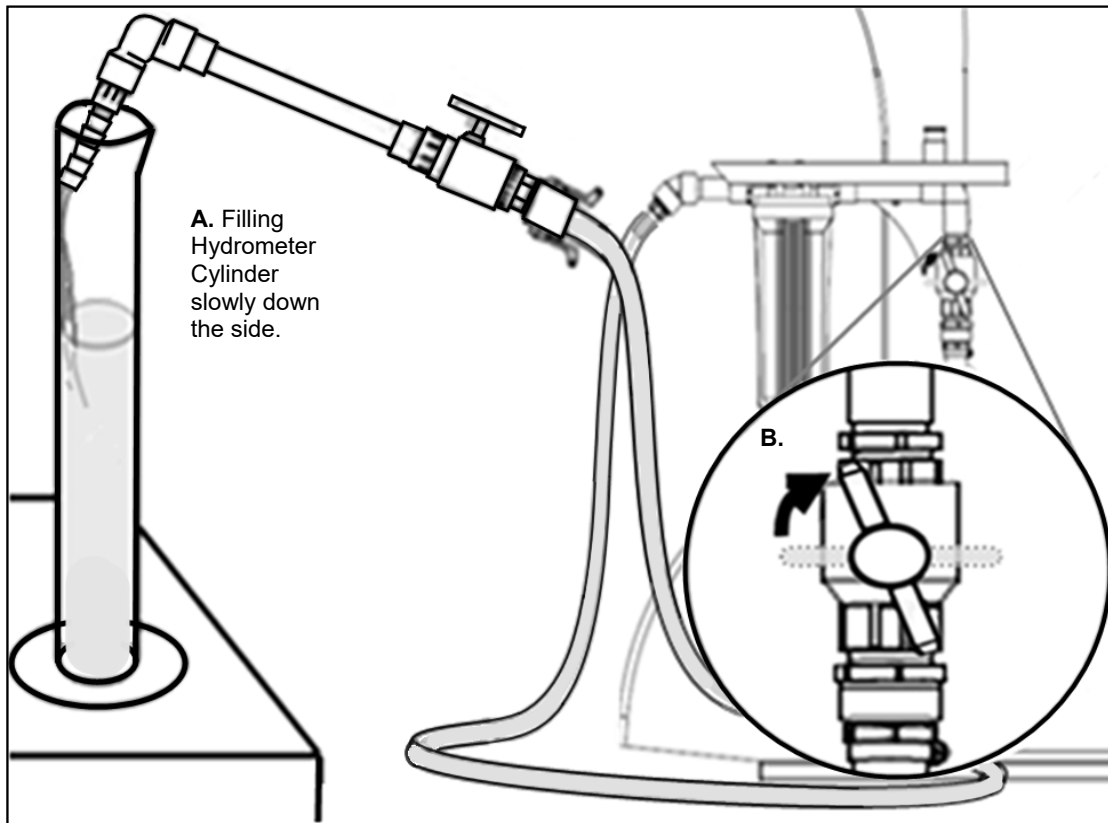

Figure 9: Item A, Filling Hydrometer and Item B, Slightly OPEN Main Transfer Ball Valve
4. Slightly OPEN the Main Transfer Ball Valve next to the Filter Housing (Figure 9, item B).
- Slowly OPEN the Transfer Nozzle Valve until solution starts to slowly accumulate into the Hydrometer Cylinder. Allowing solution to fill down the side of the beaker minimizes the creation of bubbles within the solution (Figure 9, item A).